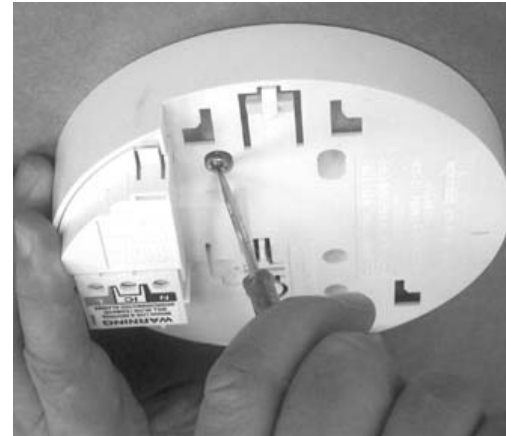

Figure 1
3. Carefully align the **RadioLINK** Base and screw into place as shown in *Figure 1*. (It is advisable at this time to use only one screw (as shown) as it allows the base to be